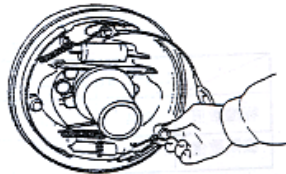

Figure 2-21
- (5) Use a E-shape retaining ring to seize the parking brake cable.
- (6) Mount the brake shoe with a fixed spring. See figure 2-21
- (7) Mount the compression spring on the push lever of hand brake, and then mount the push lever onto the brake shoe.